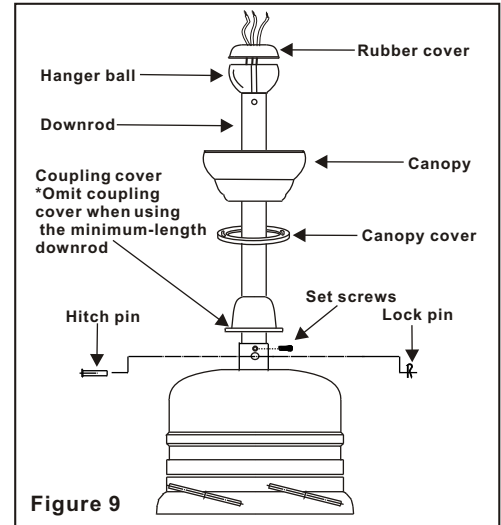

Figure 9
Step 5. Slip coupling cover, canopy cover and canopy onto downrod. (Fig. 9) Carefully reinstall hanger ball onto rod being sure that cross pin is in correct position, set screws are tighten and wires are not twisted.